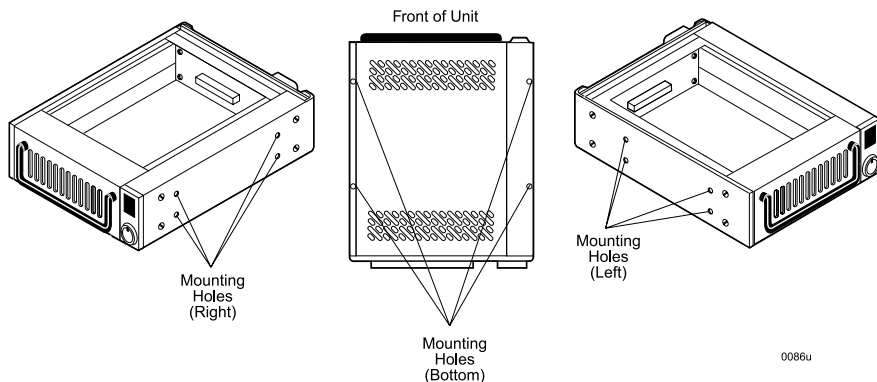

Figure 9: Receiving Frame Mounting Holes
4. With the drive carrier locked into place inside the receiving frame, install the Ultra320 DE100 receiving frame into the drive bay in the computer or expansion chassis. Use the appropriate guides to position the Ultra320 DE100, and fasten it into place with the four (4) #6-32 Phillips screws provided. Figure 9 illustrates the location of the mounting holes. Mounting holes are provided on each side and the bottom of the receiving frame to accommodate a variety of mounting configurations. Use the mounting holes which best suit the computer or expansion chassis configuration.